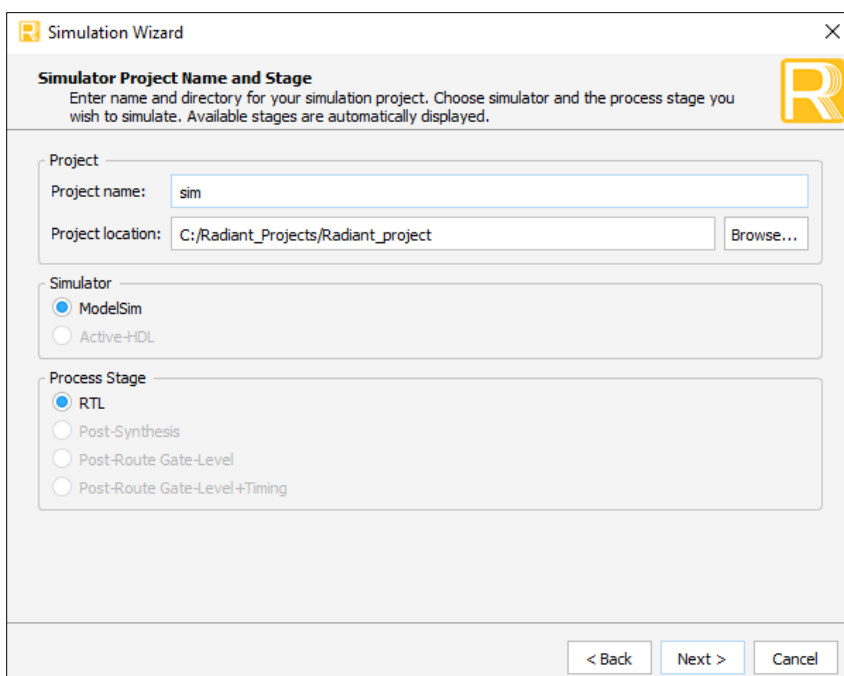
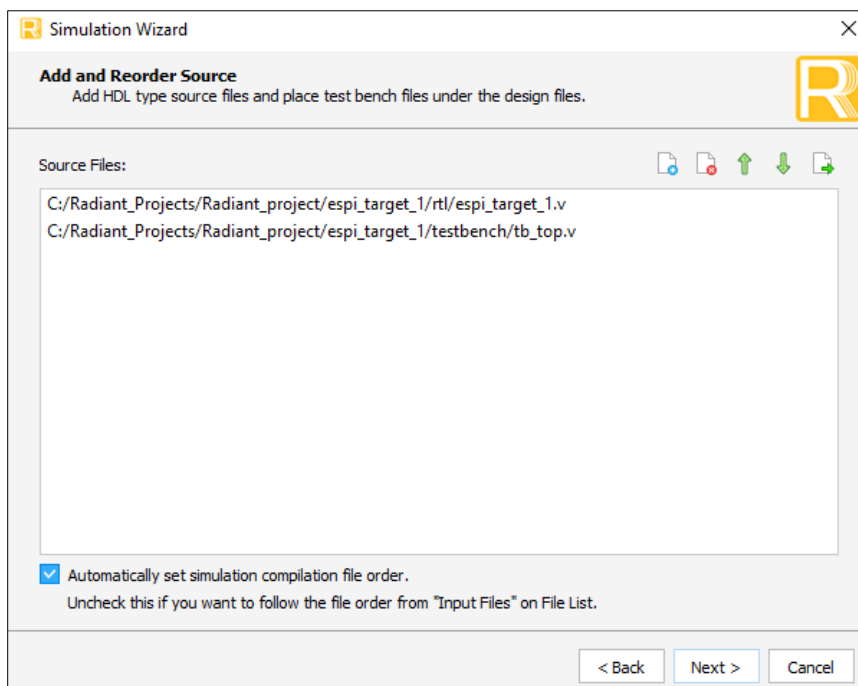

Figure 7.5. Simulation Wizard
Figure 7.6. Add and Reorder Source
1. Click the  icon located on the toolbar to initiate the **Simulation Wizard**, as shown in Figure 7.5.
2. Click **Next** to open the **Add and Reorder Source** window, as shown in Figure 7.6.
Designing with the IP	- Updated Figure 7.1. Module/IP Block Wizard, Figure 7.2. IP Configuration, Figure 7.3. Check Generated Result, Figure 7.4. Timing Constraint File (.pdc) for the eSPI Target IP, Figure 7.5. Simulation Wizard, Figure 7.6. Add and Reorder Source, and Figure 7.7. Simulation Waveform. - Updated the clock timing constraints in the Timing Constraints section.